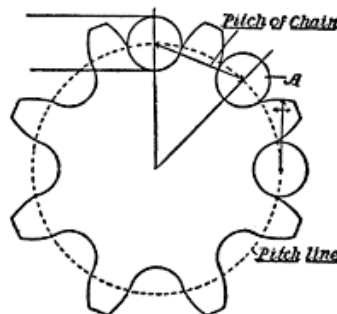

Fig. 125. Sprocket Wheel. ToList
SPROCKET WHEELS.—For sprocket wheels the pitch line passes centrally through the rollers (A) of the chain, as shown in Fig. 125, and the pitch of the chain is that distance between the centers of two adjacent rollers. In this case the cut of the teeth is determined by the chain